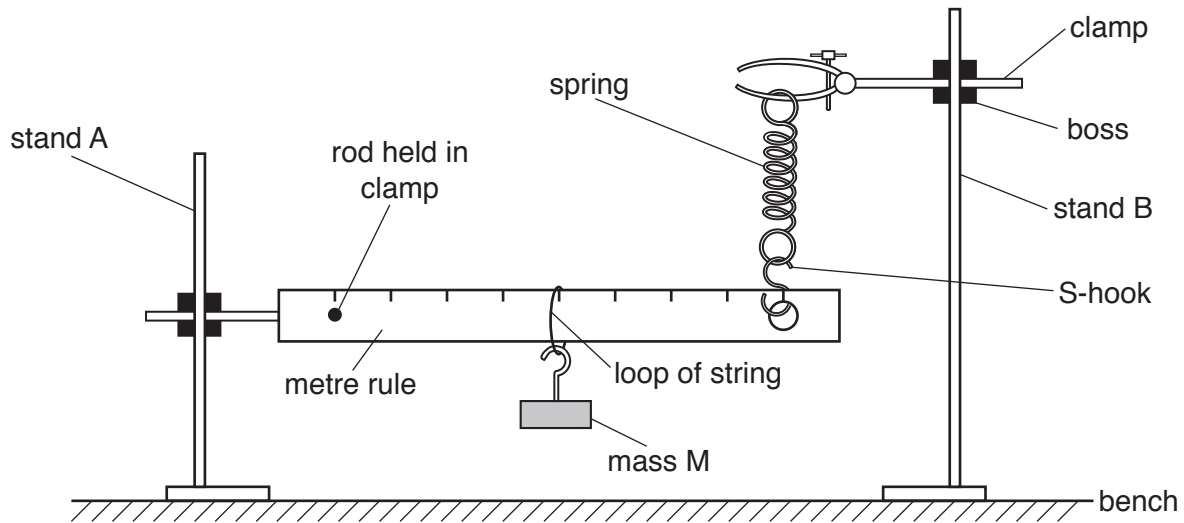

Fig. 4.2
6. The loop of string should fit loosely over the metre rule so that the candidate can suspend the mass  $M$  from the rule at the 50.0 cm mark whilst it is held horizontally by the spring. The candidate will set up the apparatus as shown in Fig. 4.2.
7. This can be a piece of stiff wire bent into an S-shape. Supervisors should ensure that this does not straighten when loaded as shown in Fig. 4.2. Supervisors should also ensure that the candidate can easily pass the hook through the hole at the 90.0 cm mark on the rule.